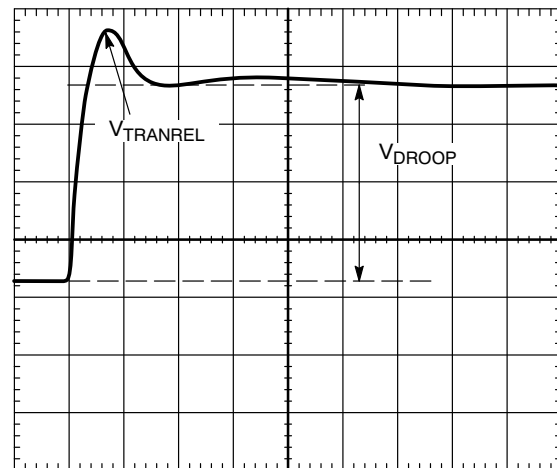

Figure 18. Transient Setting Waveform
- For load release (see Figure 18), if $V_{TRANREL}$ is larger than the allowed overshoot, there is not enough output capacitance. Either more capacitance is needed, or the inductor values need to be made smaller. When changing inductors, start the design again using a spreadsheet and this tuning procedure.